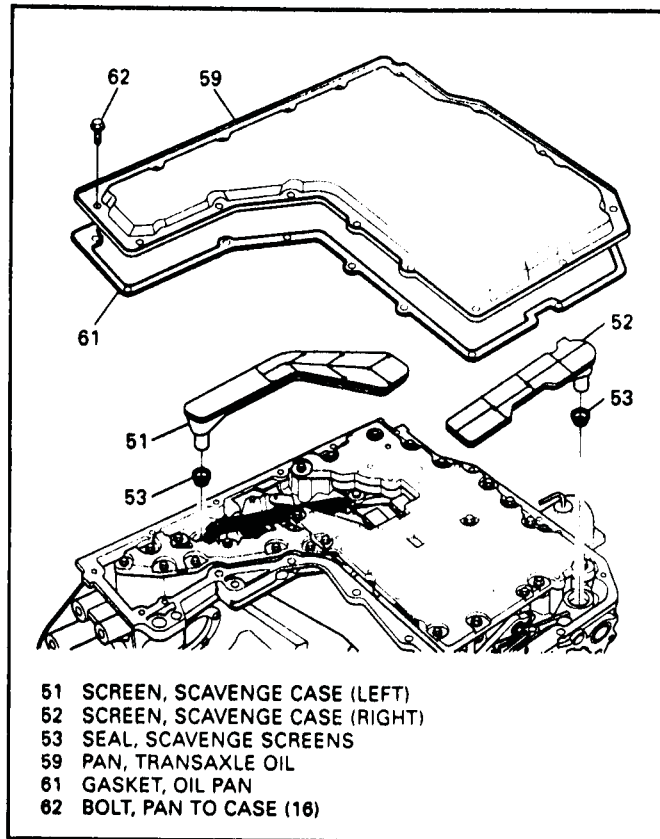

Figure 119
1. Install both scavenge screen seals (53) into case, as shown in Figure 119.
2. Install new scavenge screens into the seals, as shown in Figure 119.
3. Install new bottom pan gasket onto the case (See Figure 119).
4. Install bottom pan and hand start all of the bottom pan bolts (Figure 119).